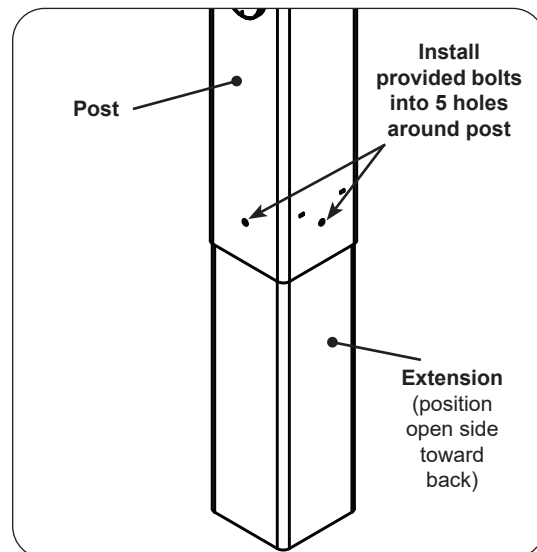

Fig. 28-1 Install extension to post
1. Attach the extension to the bottom of the grill post so that the open portion is toward the back of the grill and the five holes in the extension line up with the five (5) weld-nuts in the post (see Fig. 28-1).